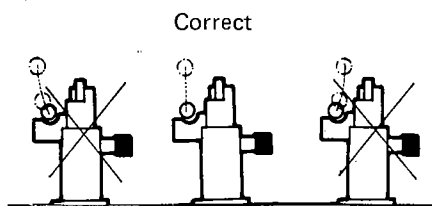

Fig. 11
- * When returning the tonearm to the arm rest, if the arm does not set properly into the notch in the arm rest (hits either the right or left side of the arm rest during descent), perform the following adjustments. See Fig. 11 below.